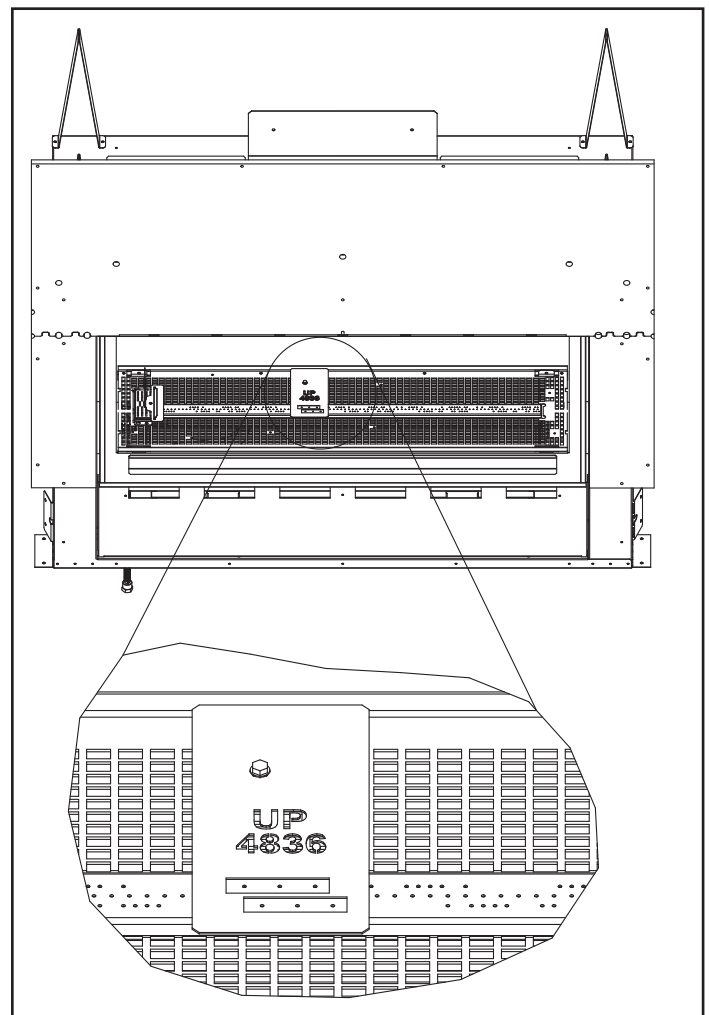

Figure 2.
9. There are 6 burner port holes that must be plugged in order to prevent sooting. Place burner port fixture over shoulder screw #6 as shown in Figure 2. Ensure the "UP" marking is in the correct orientation.